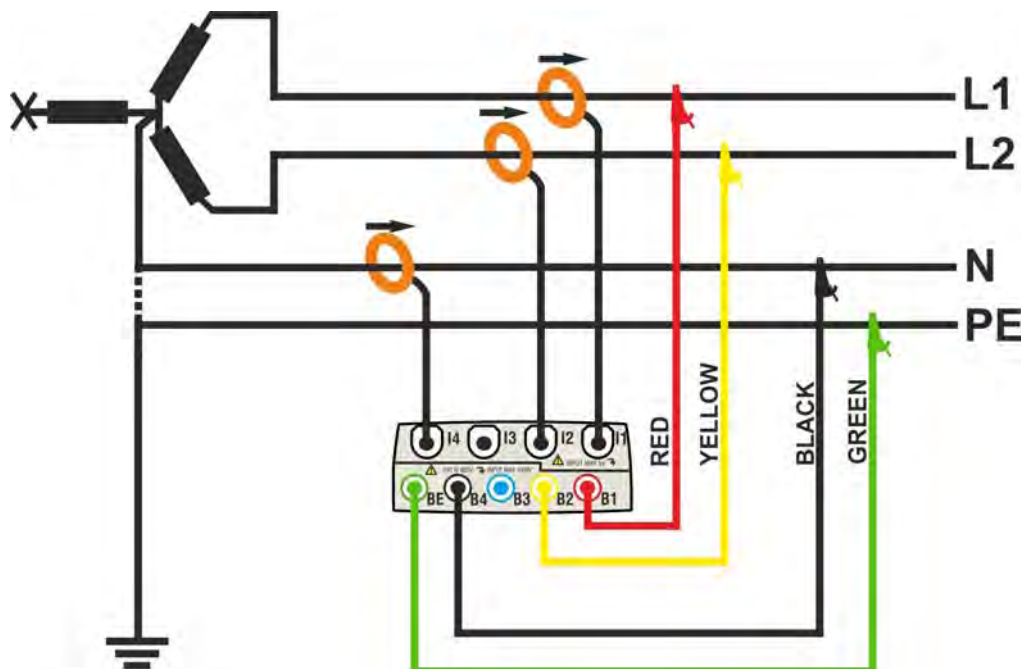

Fig. 145: Meter connection in a two phase 3-wire 3POY system – ENG\_UK type
2. Connect voltage test leads on Phases L1, L2, N and PE cables considering the colours as shown in Fig. 145
3. Connect the transducer current clamps on Phase L1, L2, N cables as shown in Fig. 145 respecting the clamp's arrow direction indicating the current standard sequence from generator to load. **On Real Time Values' section screens (selecting a 3 wire system preliminarily) always verify the positive value of Active Power and the power factor relative to load which should be normally inductive before starting a recording.** Reverse the clamp by 180 degrees on cables in case of negative readings.